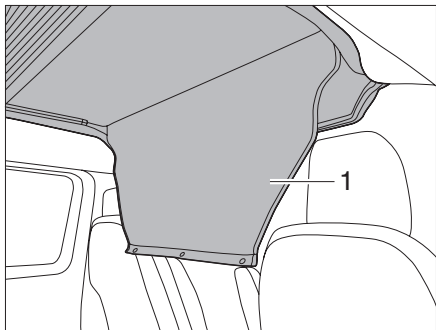

Fig. 31 Rolling up the access cover
- ▶ Open and roll up the access cover (Fig. 31,1).